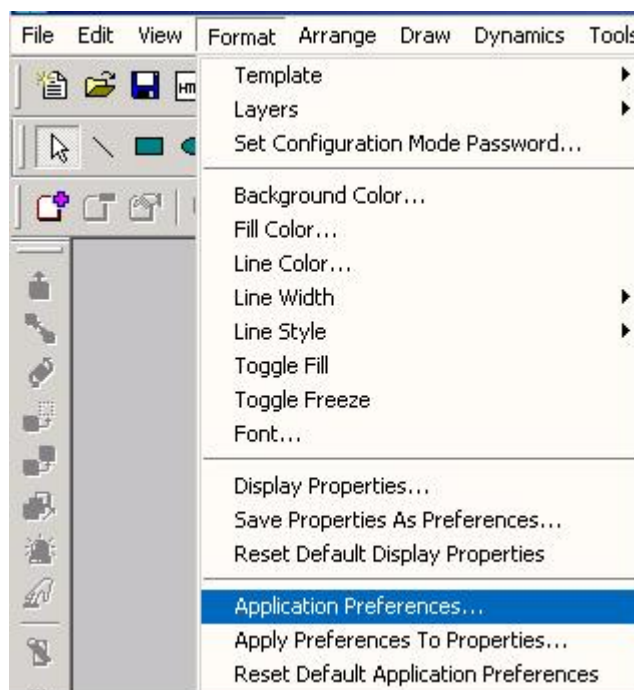

Figure 5.1. Selecting Application Preferences in Format Menu
1. In GraphWorX, select **Application Preferences** from the **Format** menu, shown in **Figure 5.1**.